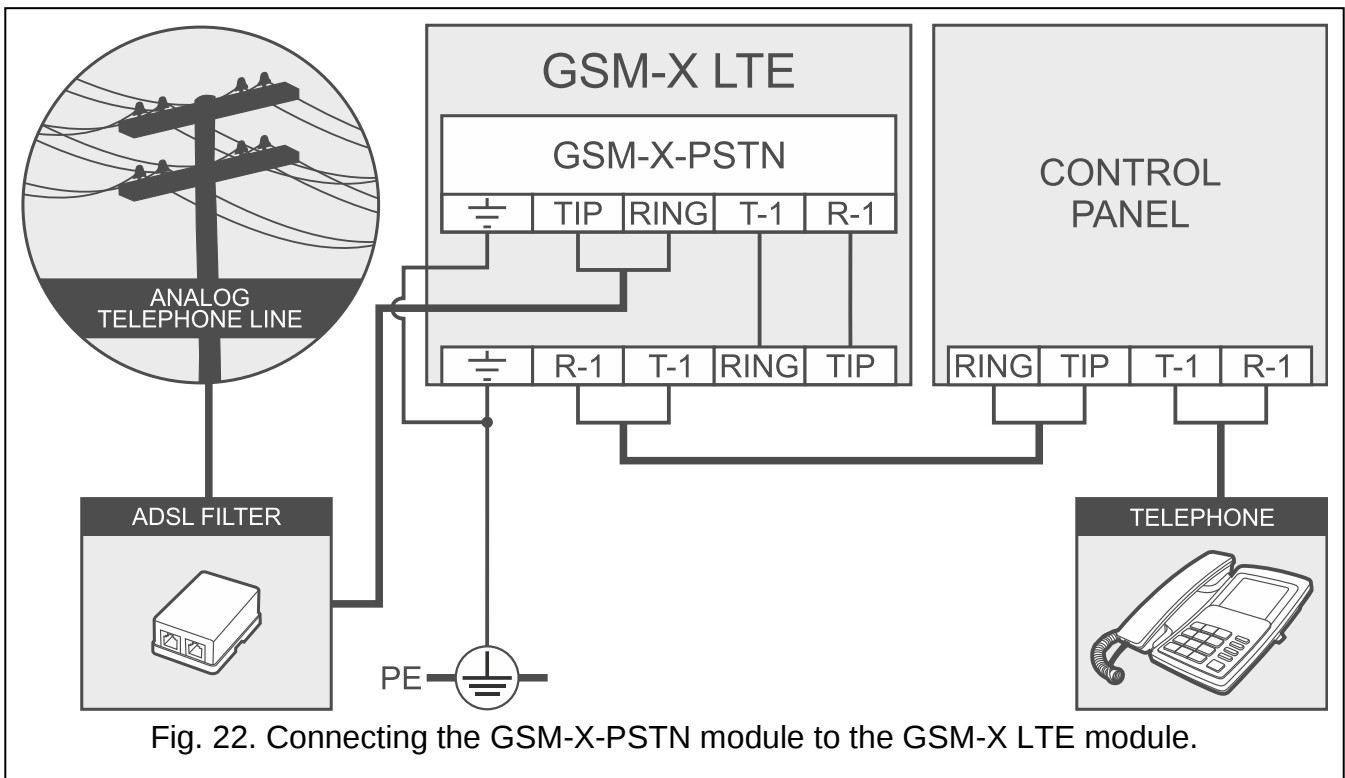

Fig. 22. Connecting the GSM-X-PSTN module to the GSM-X LTE module.
4. Connect terminals T-1 and R-1 of the module to terminals TIP and RING of the GSM-X LTE module (Fig. 22).
5. Connect the incoming telephone line to terminals TIP and RING. If the ADSL service is used on the premises, the module should be connected after the ADSL filter (Fig. 22).
6. Connect terminals T-1 and R-1 of the GSM-X LTE module to terminals TIP and RING of the control panel (Fig. 22). Any telephone located on the premises can be connected to terminals T-1 and R-1 of the control panel.
7. Connect terminals $\frac{\perp}{\perp}$ of the GSM-X LTE and GSM-X-PSTN modules to the protective earth conductor (PE) of the 230 VAC mains (Fig. 22). To make the connection, use a conductor with $\geq 0.75 \text{ mm}^2$ cross-section. Never connect the $\frac{\perp}{\perp}$ terminal to the neutral conductor (N).